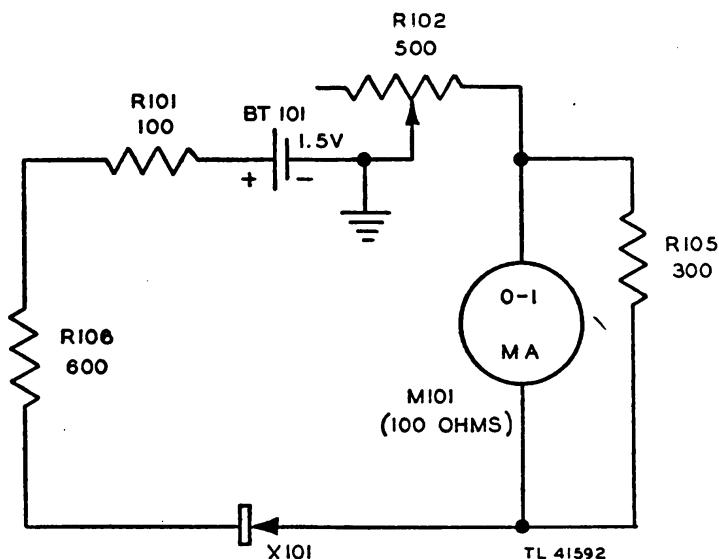

Figure 8. Circuit for backward resistance measurements, simplified schematic diagram.
(4) BKWD RES Position (fig. 8). With the selector switch in this position, the same connections are made as in subparagraph (3) above except that the connections to the crystal rectifier are reversed. The subsequent reading obtained on the meter then represents the backward resistance of the crystal rectifier.